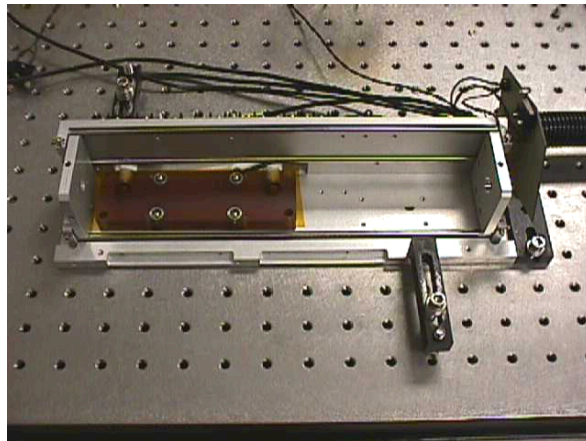

FIGURE 1
- **Place** four (4) stainless steel balls (2500-0021) into the pump cavity base plate.
- **See** Figure 1.
- **Ensure** the four (4) pump cavity base plate screws are tight.